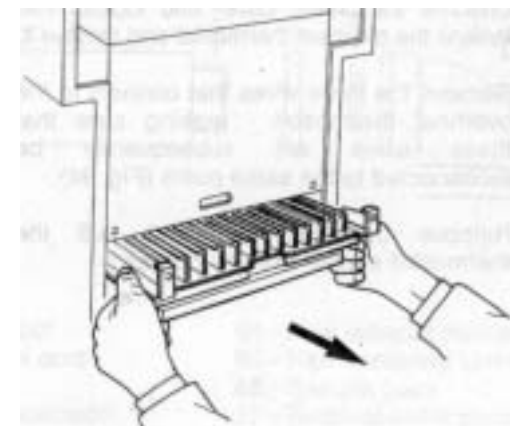

Fig. 75
- 7.15.6** Pull the burner forward and remove (Fig. 75).